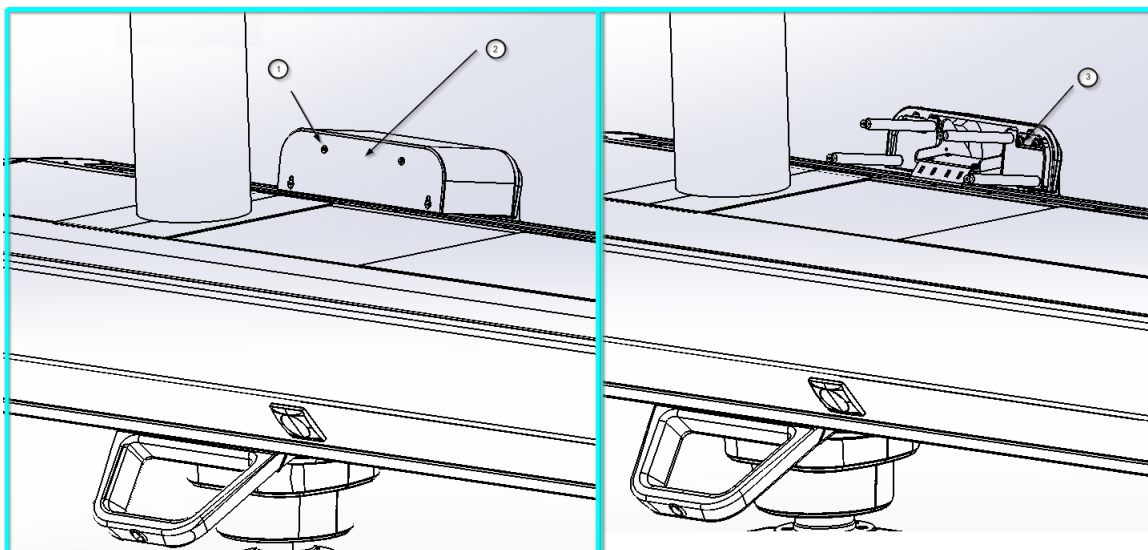

Fig.10 Removal of top trim
- Unscrew the fixing screws ① holding the upper trim ② as shown on the left in figure 10.
- Remove the upper trim ②